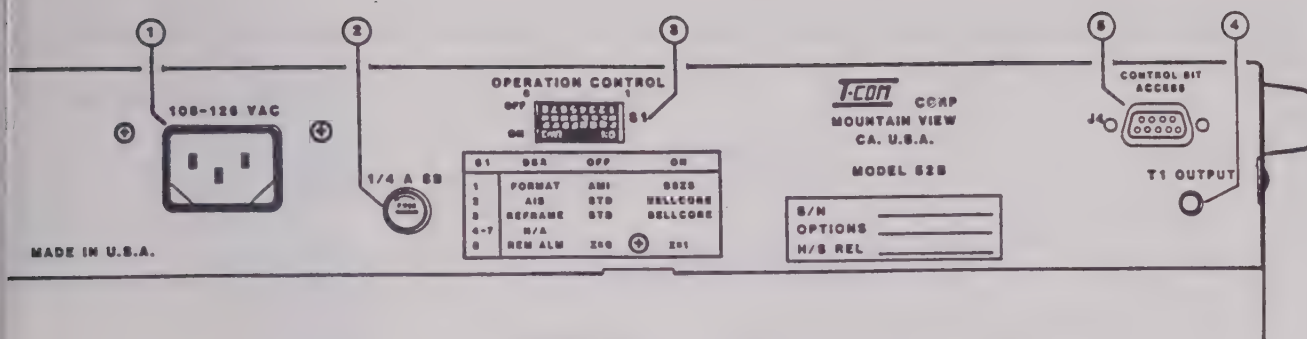

Fig 3.2 52B Rear Panel Features
3.3 The 52B rear panel features are described below. The description numbers match the numbers in figure 3.2.
3.4.1.1 The rear panel mounted dip switch, item 3 in figure 3.2, enables the 52B to be configured so as to conform to various M1-3 multiplexer makes and vintages. The assignments for the various switch positions are given in table 3.1 on the following page.
The demultiplexed DS1 group is not internally characterized by the 52B. Instead, this signal is provided as a T1 formatted PCM output on the rear panel of the 52B. Refer to jack (4) on figure 3.2. The demultiplexed signal can be analyzed by any T1 compatible PCM test set.